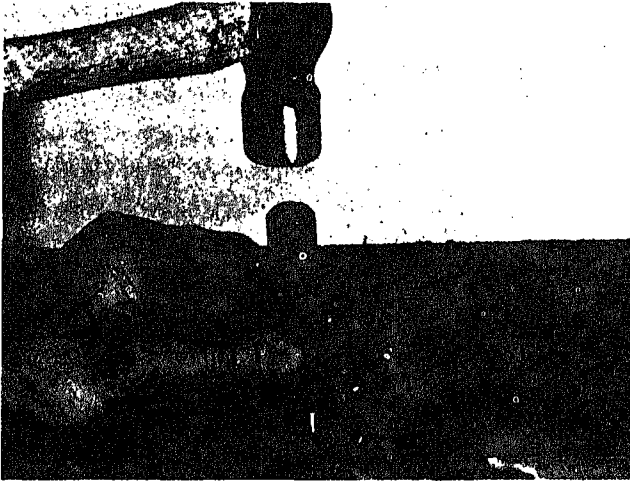

Fig. 2-1-11. Driving bushing into hole
9. Drive bushing into reamed hole with driver. Fig. 2-1-11. Bushing should protrude about 0.003 to 0.005 in. [0.0762/0.1270 mm].